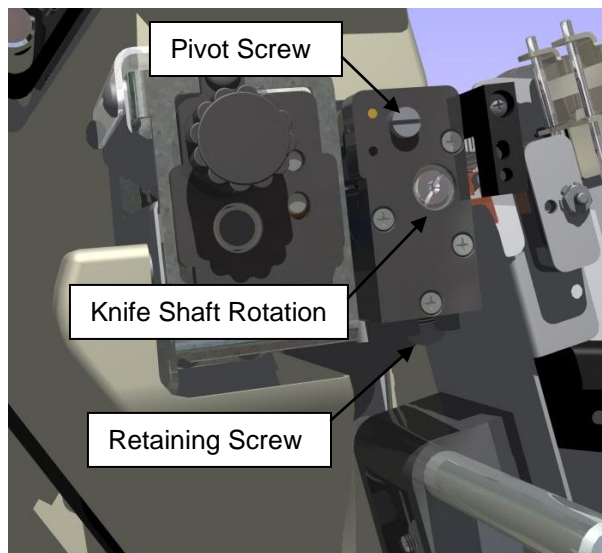

Figure 18b. Outboard End View of Knife
3. Using a Phillip's head screwdriver, loosen but do not completely remove the retaining screw on the outboard end of the knife (see Fig. 18b). Leave the retaining screw in the assembly so you will have a place to lift the outboard end of the assembly.
4. Place your right index finger on the head of the retaining screw and your thumb on top of the assembly and lift up. This will remove the key that is machined into the knife base from the groove in the mounting bracket (see Fig. 18b).